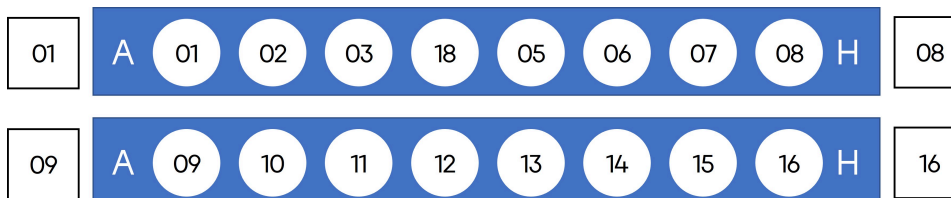

Figure 6 Barcode layout (16 RXN)
3. For detailed barcode information for each specification, refer to “Figure 6 Barcode layout (16 RXN)” on page 51 and “Figure 7 PCR BC Primer-96 layout” on page 53.